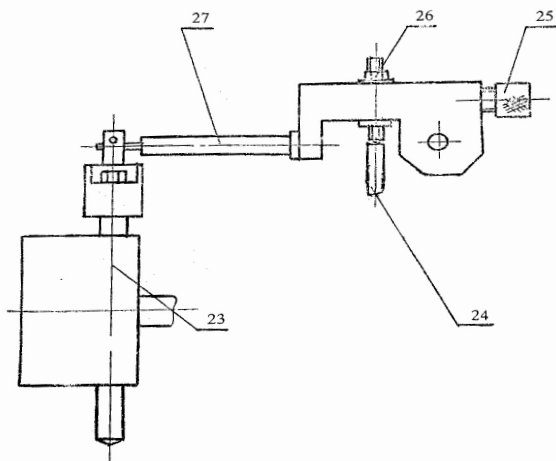

Figure 5
6.3 Adjustment of the hardness value display (figure 5)